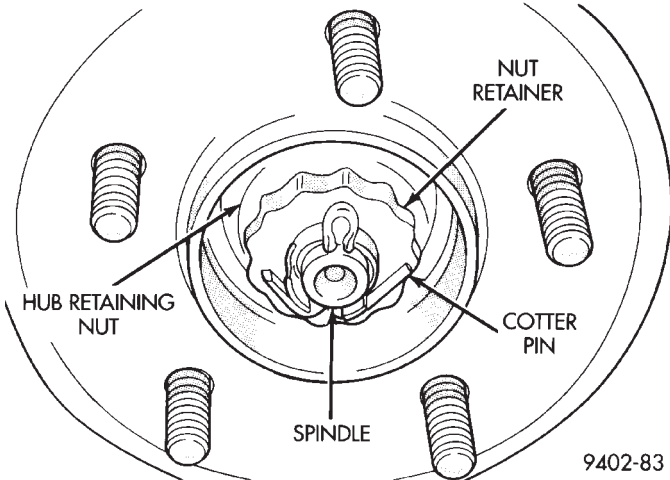

**Fig. 22 Hub And Bearing Retaining Nut and Washer**
(5) Remove rear hub and bearing assembly cotter pin and nut retainer (Fig. 22). Remove the hub and bearing retaining nut and washer from the spindle (Fig. 22). Then remove hub and bearing assembly from spindle.
(1) Install the rear hub and bearing assembly on the rear spindle. Install hub and bearing assembly retaining washer and nut on spindle (Fig. 22). Tighten the hub and bearing retaining nut to a torque of 168 N·m (124 ft. lbs.). Install the nut retainer and cotter pin (Fig. 22).
(2) Install the rear brake disc on the hub.
(3) Carefully place rear brake caliper over rotor and install on adapter. Tighten the caliper assembly to adapter mounting bolts to a torque of 22 N·m (192 in. lbs.). Refer to Rear Disc Brakes in Group 5 Brakes in this service manual for required caliper installation procedure.
(4) Install wheel and tire assembly on vehicle. Tighten the wheel mounting stud nuts in proper sequence until all nuts are torqued to half specification. Then repeat the tightening sequence to the full specified torque of 129 N·m (95 ft. lbs.).
(5) Lower vehicle to the ground.